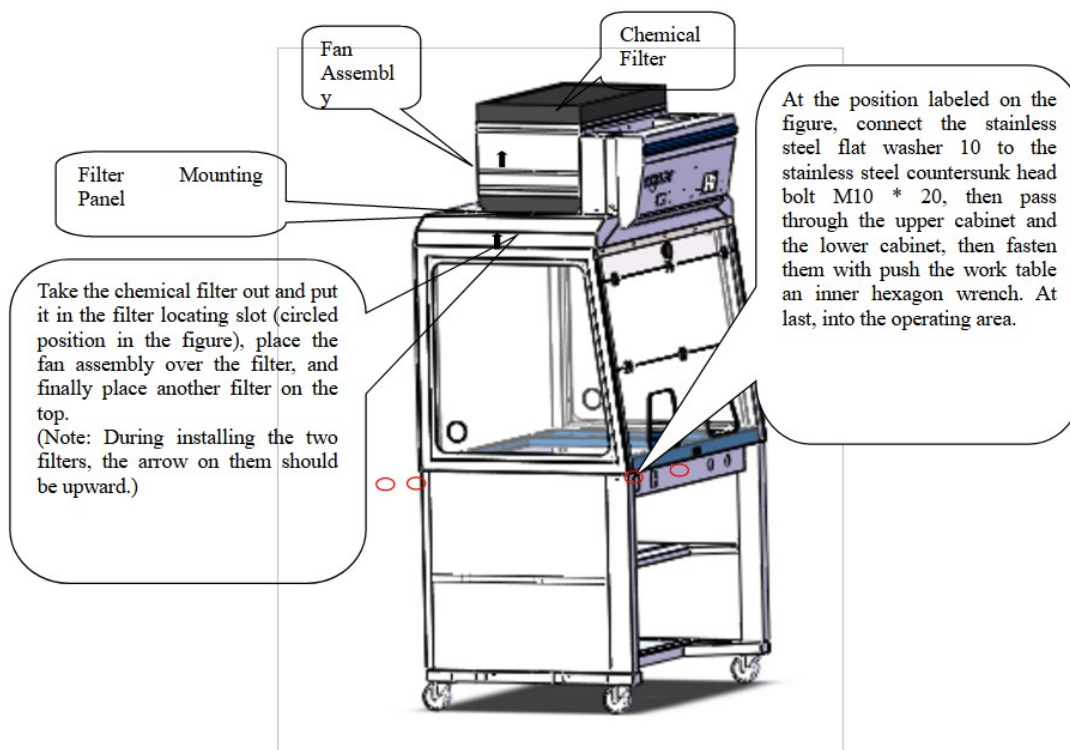

Figure 7
- (1) Place the lower cabinet in the proper installation position, brake the caster brakes, then place the upper cabinet on the lower cabinet, and let the left, right, rear side of the upper cabinet align with those of the lower cabinet;
- (2) Fix the upper and lower cabinets to prevent skidding and open the front acrylic door on the upper cabinet, and then take the accessories out: including stainless steel hexagon socket head cap bolts M10 \* 20 and stainless steel large flat washer 5, and fasten well the lower cabinet and the upper cabinet, as is shown in Figure 7